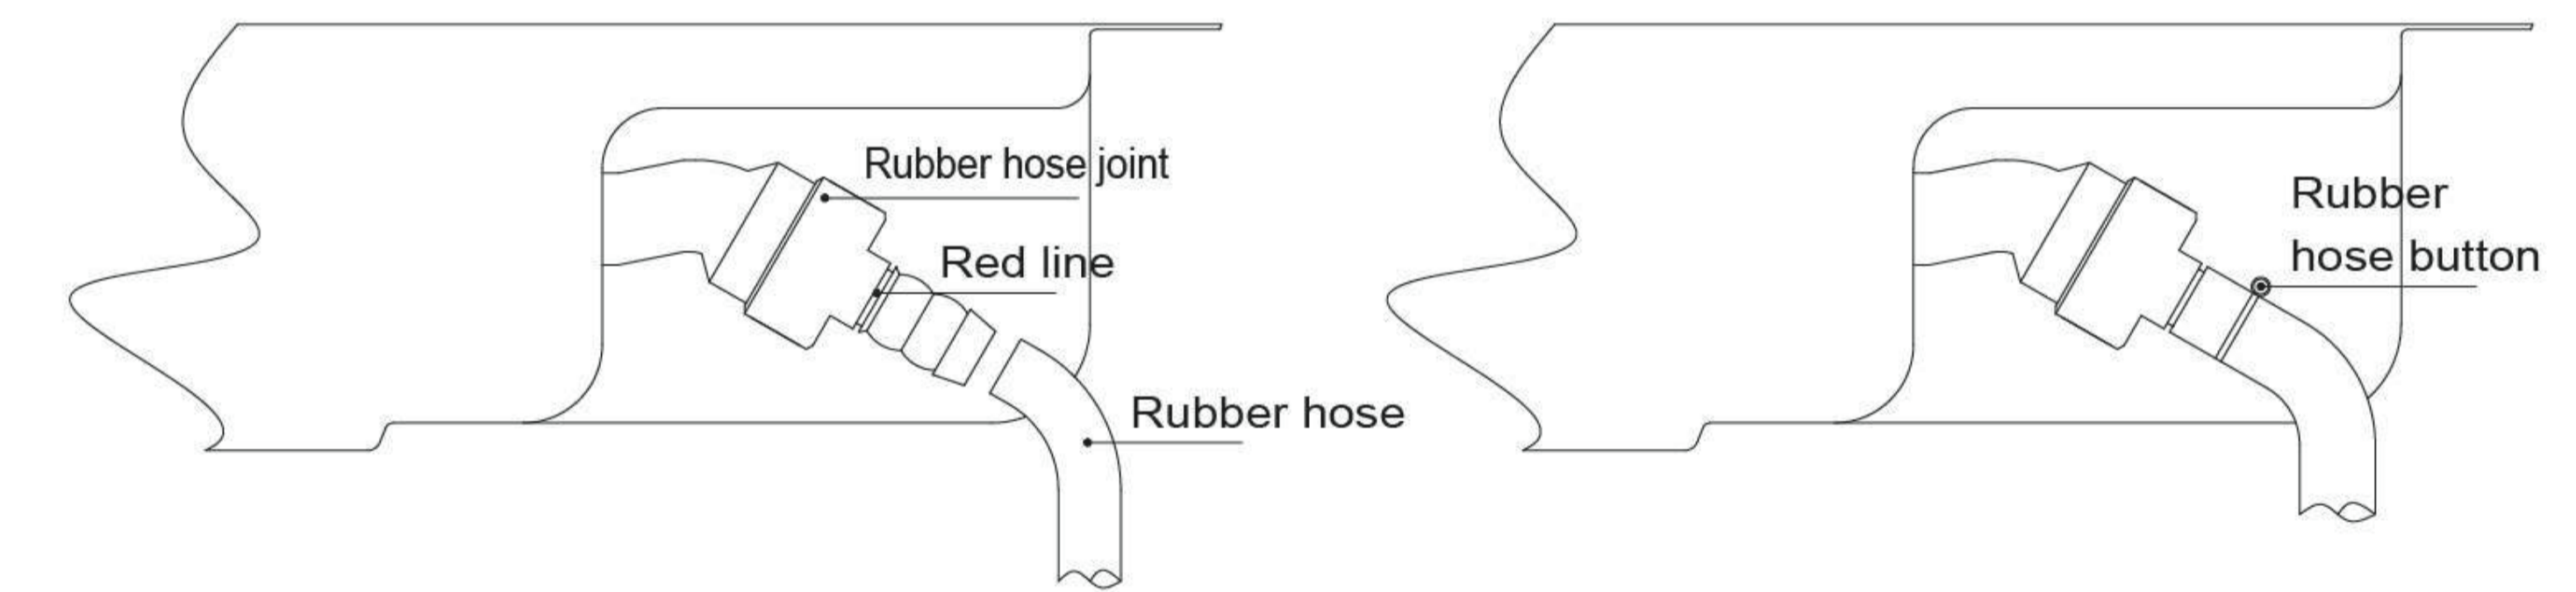

Fig.8
- Buckle the rubber hose button to the hose, then hitch the hose to stove's air intake joint, till the red mark, and tightly constrict the rubber hose button. (refer to Fig.8)
- Leak test: smear the joint part with tenuous and neutral cleanser(eg.soap subs), and open the general gas valve, if there is air bubble, please close the general gas valve soon, and repeat the action (1) and (2) until there is no air bubble.